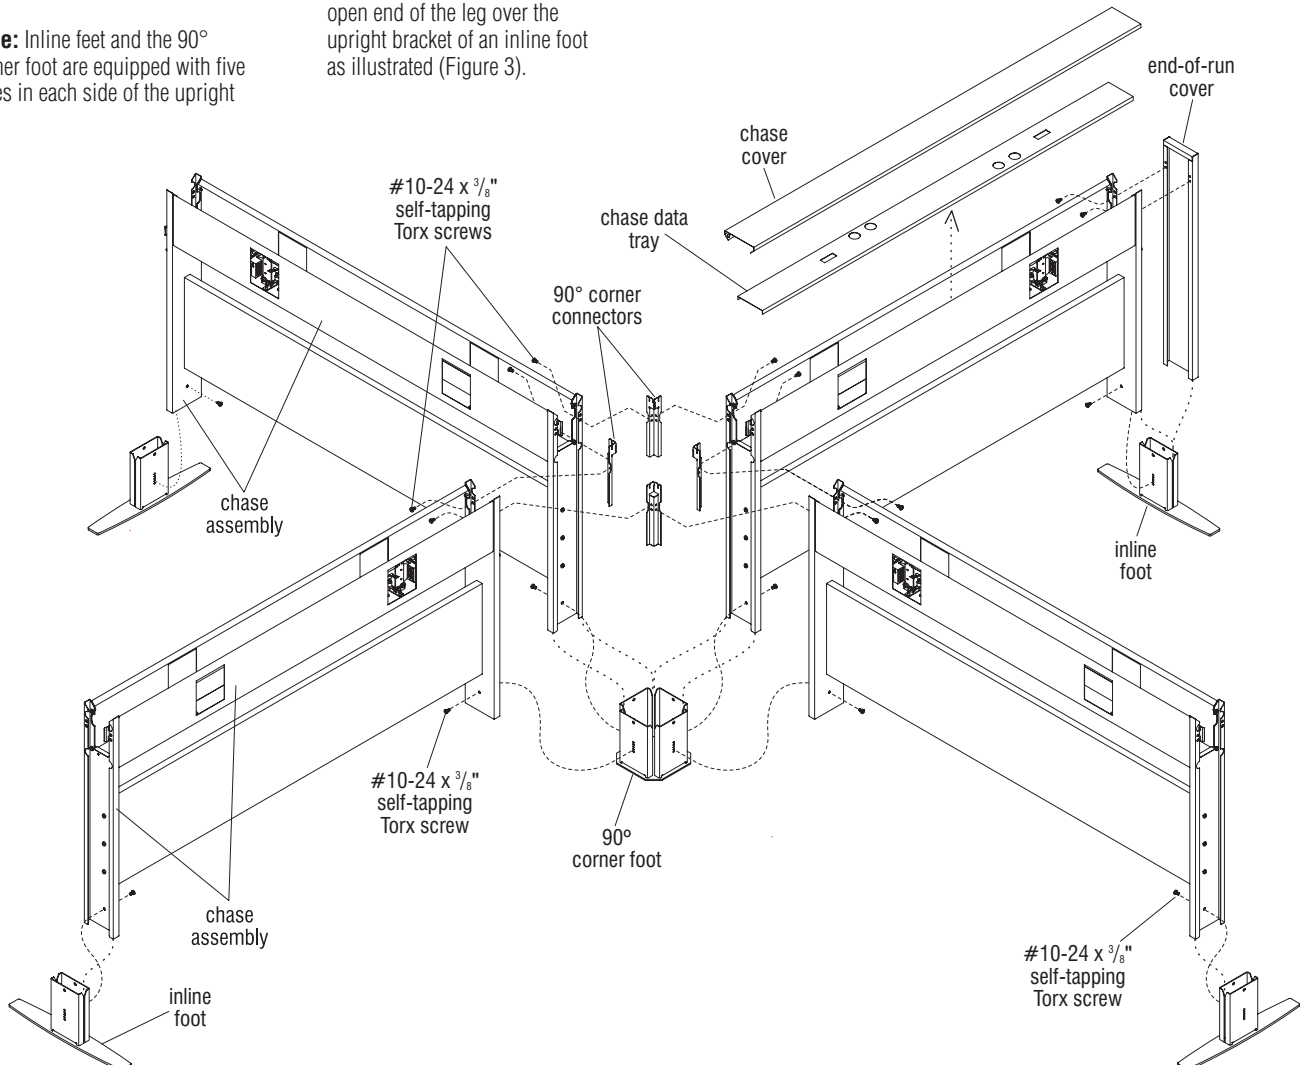

Figure 3 - Four-Way Intersection
Note: The instructions below and Figure 3 illustrate a four-way corner configuration of chase assemblies. Please reference appropriate instructions and the space-planning layout to determine the location and configuration of the room.
1. If the chase trough assembly shipped with a chase cover and/or chase data tray pre-installed, remove those components at this time and carefully set aside for later use (Figure 3).
2. Each chase assembly which will install to the 90° corner foot must first be installed to an inline foot at the opposite end of the chase. To install a chase leg to the inline foot, simply insert the bottom open end of the leg over the upright bracket of an inline foot as illustrated (Figure 3).
3. To install chase assemblies into a four-way intersection, one at a time position a chase assembly over a 90° corner foot as shown. Insert the lower part of the chase leg over the upright bracket of the 90° corner foot, in a similar manner as installing to an inline foot (Figure 3).
of each chase assembly with the two holes on each flange of the connector. Using a 6" long T-25 driver (provided), secure each connector to both adjoining chase assemblies as illustrated with one #10-24 x 3/8" self-tapping Torx screw at each 90° inner connector flange (Figure 3).